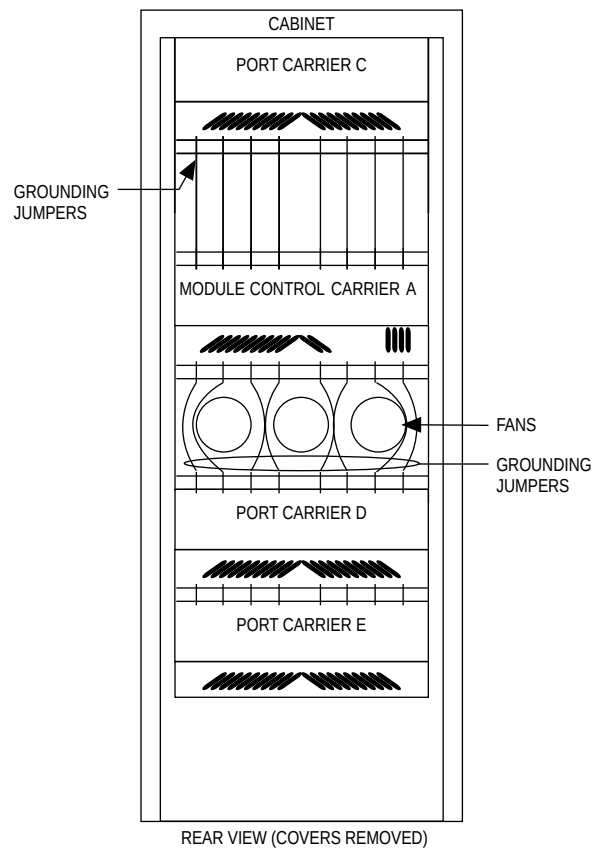

Figure 7-4. Locations of Grounding Jumpers
3. Disconnect one end of the eight ground straps (between the "A" and "C" carriers) from the "A" carrier (see Figure 7-4). These straps will be reconnected to the new "A" carrier.
4. Disconnect one end of the eight ground straps (between the "A" and "D" carriers) from the "A" carrier (see Figure 7-4). These straps will be reconnected to the new "A" carrier.
5. Connect the eight ground straps from the "C" carrier to the new "A" carrier (see Figure 7-4). These straps were left connected to the "C" carrier when the old "A" carrier was removed.
6. Connect the eight ground straps from the "D" carrier to the new "A" carrier (see Figure 7-4). These straps were left connected to the "D" carrier when the old "A" carrier was removed.